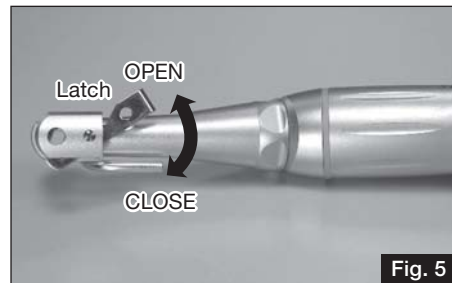

Fig. 5
1) Slide the Latch in the direction of " OPEN " (Fig. 5).
3) Slide the Latch in the direction of " CLOSE " to set the Bur in place (Fig. 5).